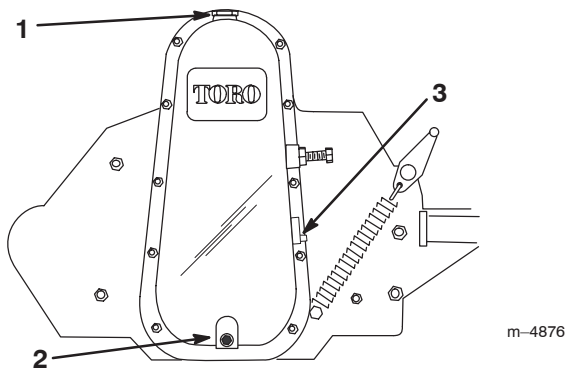

Figure 8
3. Open the oil fill hole on top of the drive chain case (Fig. 8).
5. Remove the drain plug (Fig. 8).
7. Remove the side plug (Fig. 8).